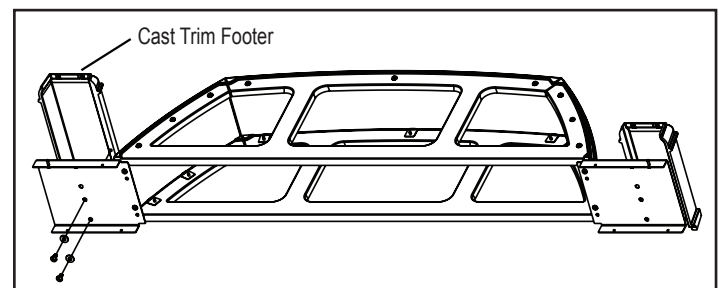

Figure 22.6
7. Attach cast footers. **Figure 22.6.**